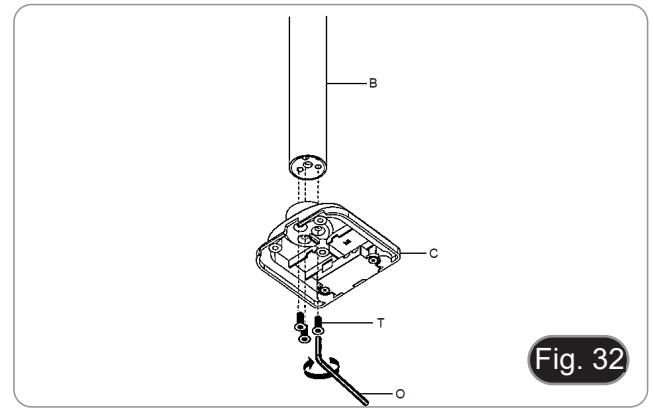

Fig. 32
1. Attach the pillar (B) to the table clamp (C) using the three screws (T). (Fig. 32)